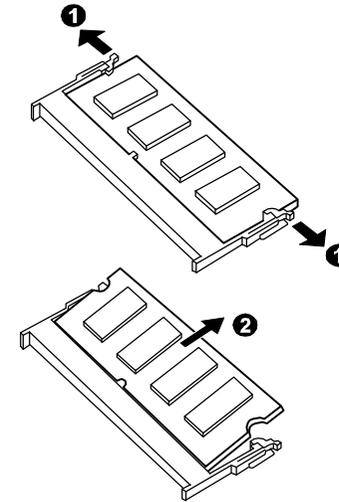

Figure 5-18. Removing the SO-DIMM
2. Pull the retaining clips outwards and remove the SO-DIMM. (Refer to Figure 5-18)